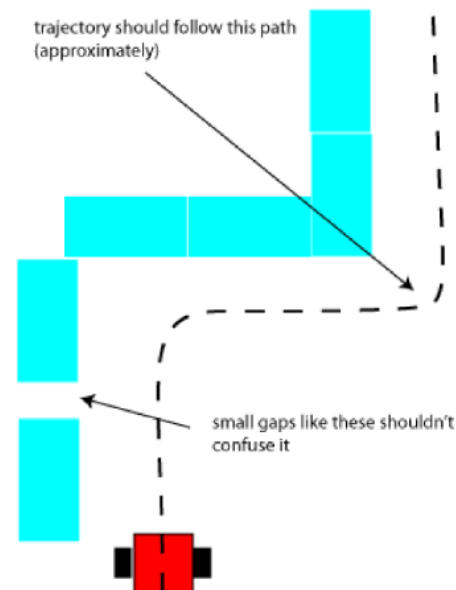

Figure 1. Course and robot placement.
- Place the **robot** at one corner of a sequence of blocks as shown in Figure 1.
A single **lap** is defined as a closed trajectory that the **robot** must follow and keep its distance from the **wall** before arriving in its starting location. In **Figure 1**, one whole lap would mean following the **wall** on the right side (the dotted line) and continuing around the end to follow it along the left side until reaching the starting point.
4. Should my **robot follow the **wall** in an anti-clockwise direction (like Figure 1)?**
7. Will the **wall setup look exactly like Figure 1?**